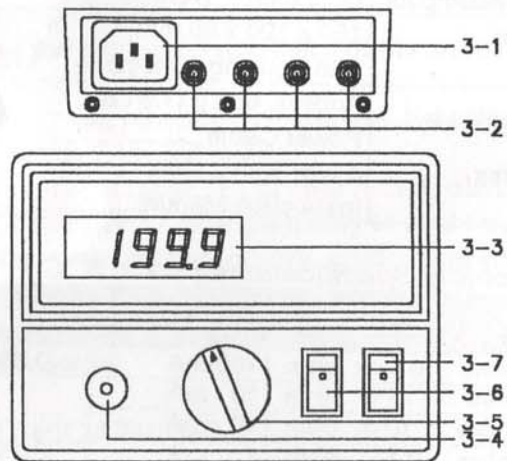

Fig. 1
- 2) a. Engage the " Power On/Off Switch (3-7, Fig. 1) to the " On " position (" 1 " position).
b. Rotate the " Range Rotary Switch " (3-5, Fig. 1) to the convenient & right range 200 m ohm, 2000 m ohm, 20 ohm, 200 ohm, 2000 ohm.
c. Engage the " 200 m ohm/2000 m ohm, 20 ohm, 200 ohm, 2000 ohm Select Switch " (3-6, Fig. 1) to the " 200 ohm " position for the 200 m ohm range measurement.
- d. Engage the " 200 m ohm/2000 m ohm, 20 ohm, 200 ohm, 2000 ohm Select Switch " (3-6, Fig. 1) to the " 2000 m ohm, 20 ohm, 200 ohm, 2000 ohm " position except the 200 m ohm range measurement.
- b. Rotate the " Zero Adjust Knob " (3-4, Fig. 1) until the display reading values show the zero values.